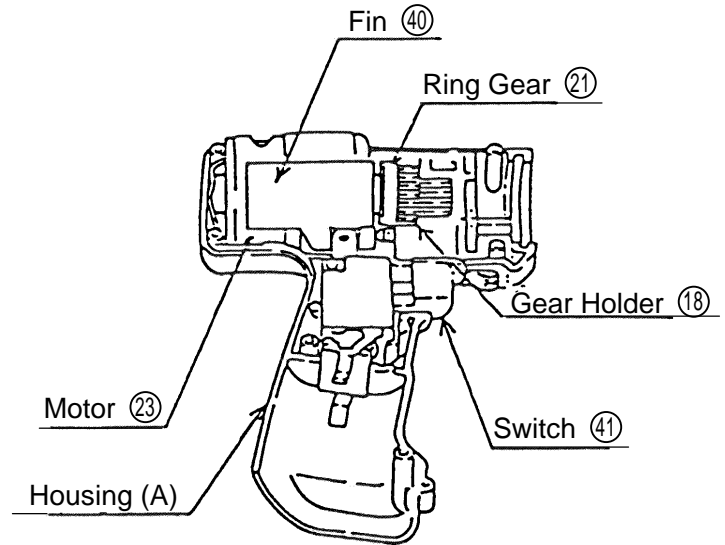

Fig. 9
- [4] Align the protrusion of the Ring Gear ㉑ with the matching recessed portion of the Damper ㉒, and install the parts assembled in Para. [2], above, into Housing (A). (Fig. 9)